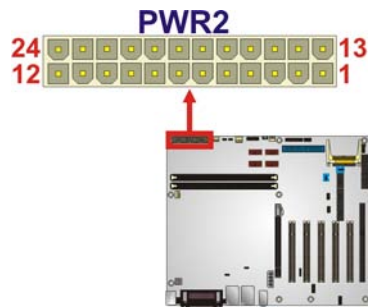

Figure 3-12: Power Connector Location
- CN Location: See **Figure 3-12**